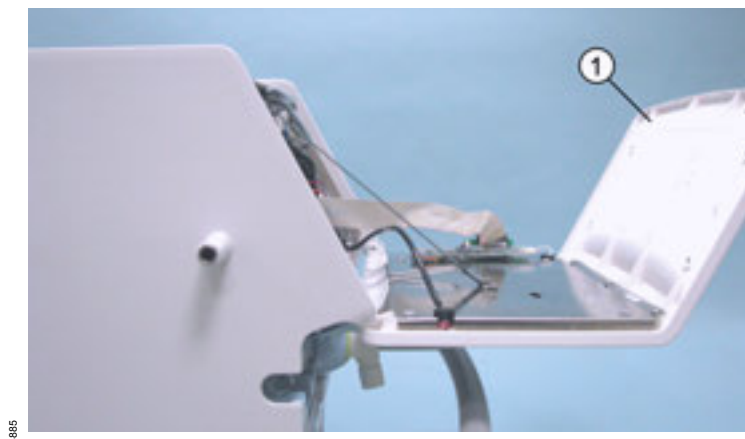

Fig. 45 Left side view of device: Operator control unit
- 3 Swivel the operator control unit (Fig. 45/1) forwards.